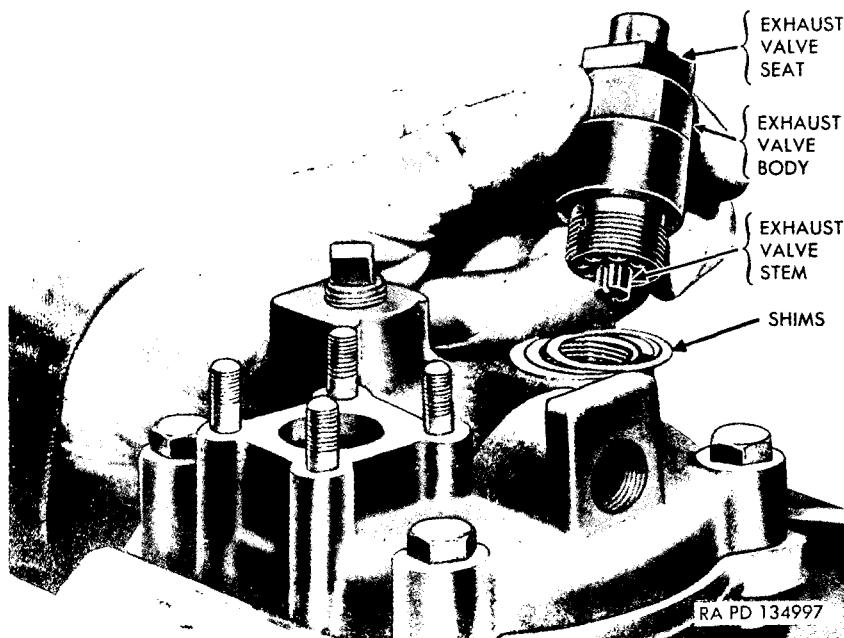

Figure 76: Removing exhaust valve assembly.
d. Remove and Disassemble Exhaust Valve Assembly. Unscrew exhaust valve assembly and remove shims (fig. 76). Unscrew exhaust valve seat from exhaust valve body and lift out exhaust valve spring and exhaust valve (fig. 85).
b. Assemble and Install Exhaust Valve Assembly (fig. 85). Position exhaust valve body. Install exhaust valve spring in valve seat and screw valve seat and valve body together. Place shims on top of exhaust valve assembly and install exhaust valve assembly (fig. 76) into body. Tighten securely.